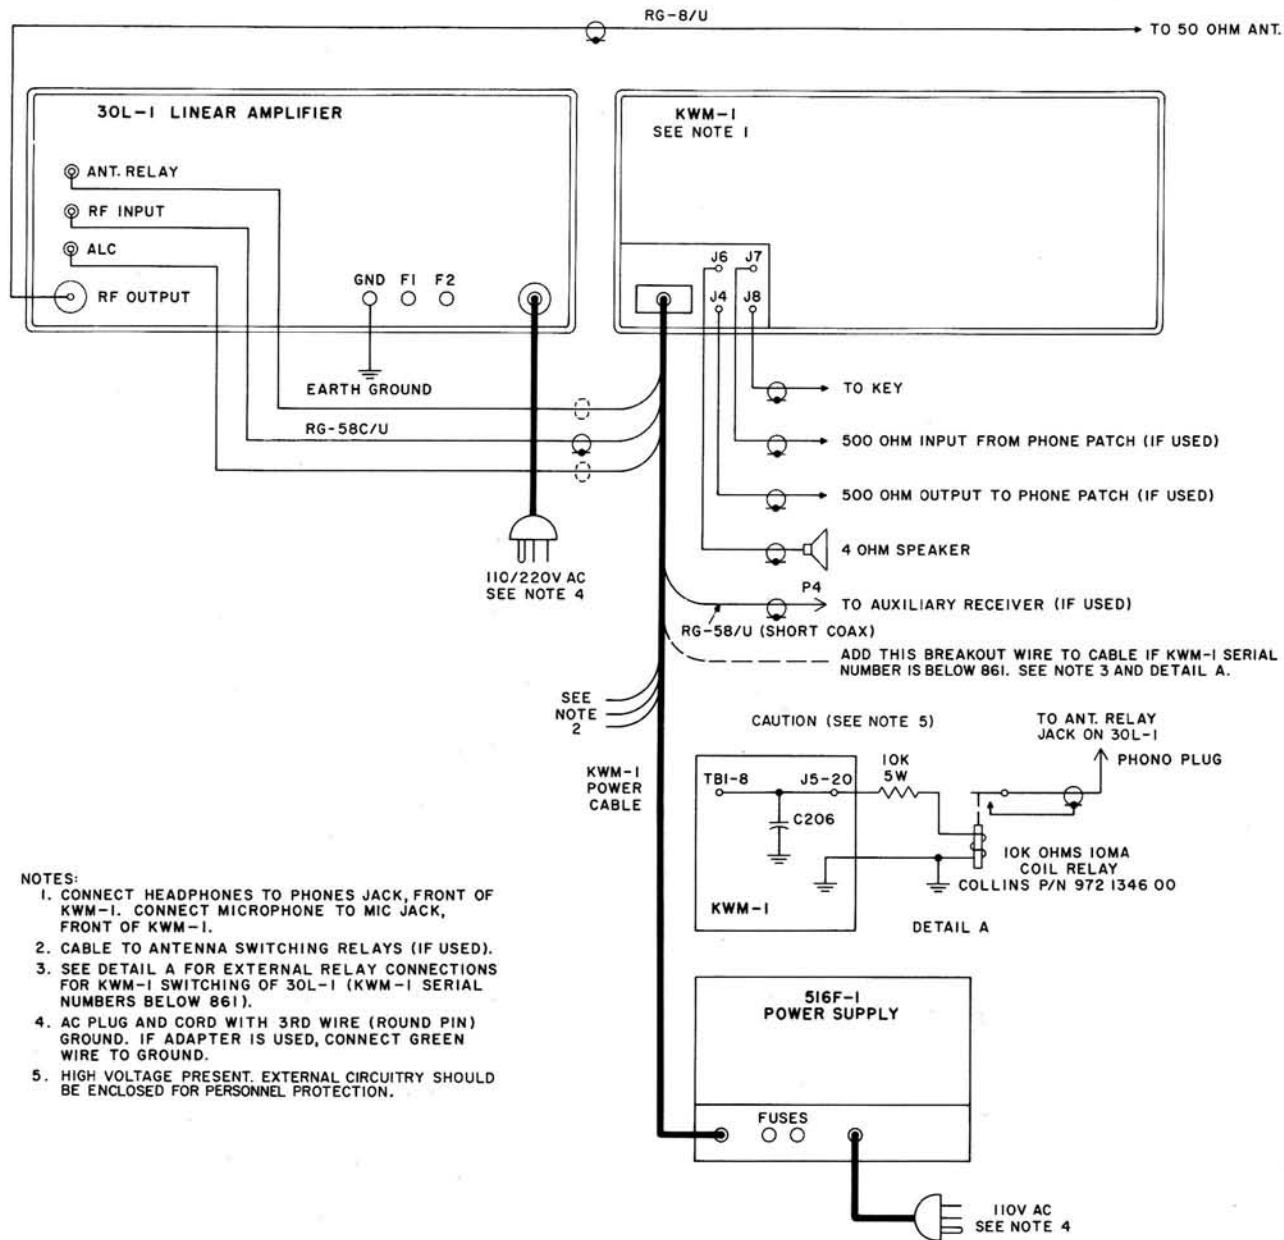

Figure 1-3. Interconnections with KWM-1
If KWM-1 models above serial number 861 are used with the 30L-1, it will be necessary to bring out alc and "ground-on-transmit" connections from the 516F-1 power cable plug, P-1, as shown in figure 1-3. Make the alc connection to terminal 19, and the "ground-on-transmit" connection to terminal 20. Use a shielded wire, and connect to 30L-1 ALC and ANT. RELAY jacks with phono plugs.
f. Refer to figure 1-3, Detail A. External to the KWM-1, connect a 10,000-ohm, 5-watt resistor and a relay coil in series from J5 terminal 20 to a ground on the rear of the KWM-1 chassis. Use a relay, such as Collins part number 972-1346-00, with a 10,000-ohm, 10-ma coil, and a set of normally open contacts.